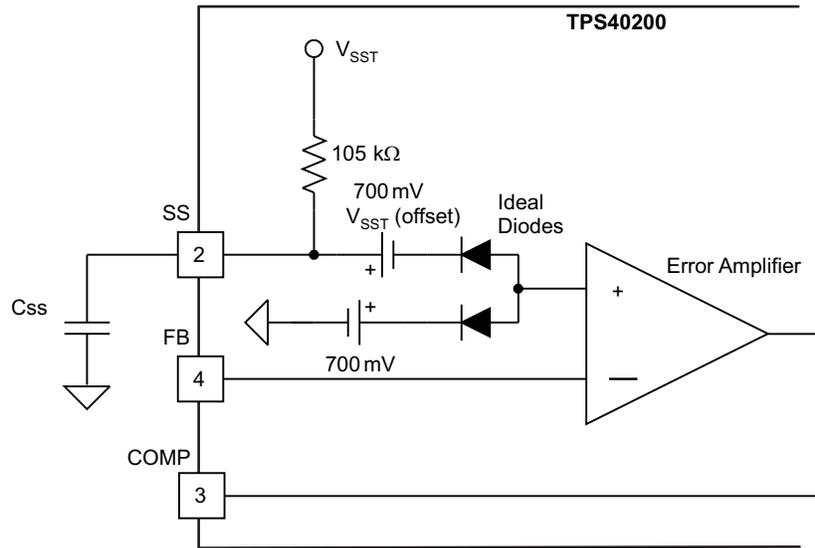

Figure 31. Soft-Start Circuit
An external capacitor,  $C_{SS}$ , connected from the soft-start (SS) pin to ground controls the TPS40200 soft-start interval. An internal charging resistor connected to VDD produces a rising reference voltage, which is connected through a 700-mV offset to the reference input of the TPS40200 error amplifier. When the soft-start capacitor voltage ( $V_{CSS}$ ) is below 150 mV, there is no switching activity. When  $V_{CSS}$  rises above the 700-mV offset, the error amplifier starts to follow  $V_{SST} - 700$  mV, and uses this rising voltage as a reference. When  $V_{CSS}$  reaches 1.4 V, the internal reference takes over, and further increases have no effect. An advantage of initiating a slow start in this fashion is that the controller cannot overshoot because its output follows a scaled version of the controller's reference voltage. A conceptual drawing of the circuit that produces these results is shown in Figure 31. A consequence of the 700-mV offset is that the controller does not start switching until the  $V_{CSS}$  has charged up to 700 mV. The output remains at 0 V during the resulting delay. When  $V_{CSS}$  exceeds the 700-mV offset, the TPS40200 output follows the soft-start time constant. Once above 1.4 V, the 700-mV internal reference takes over, and normal operation begins.